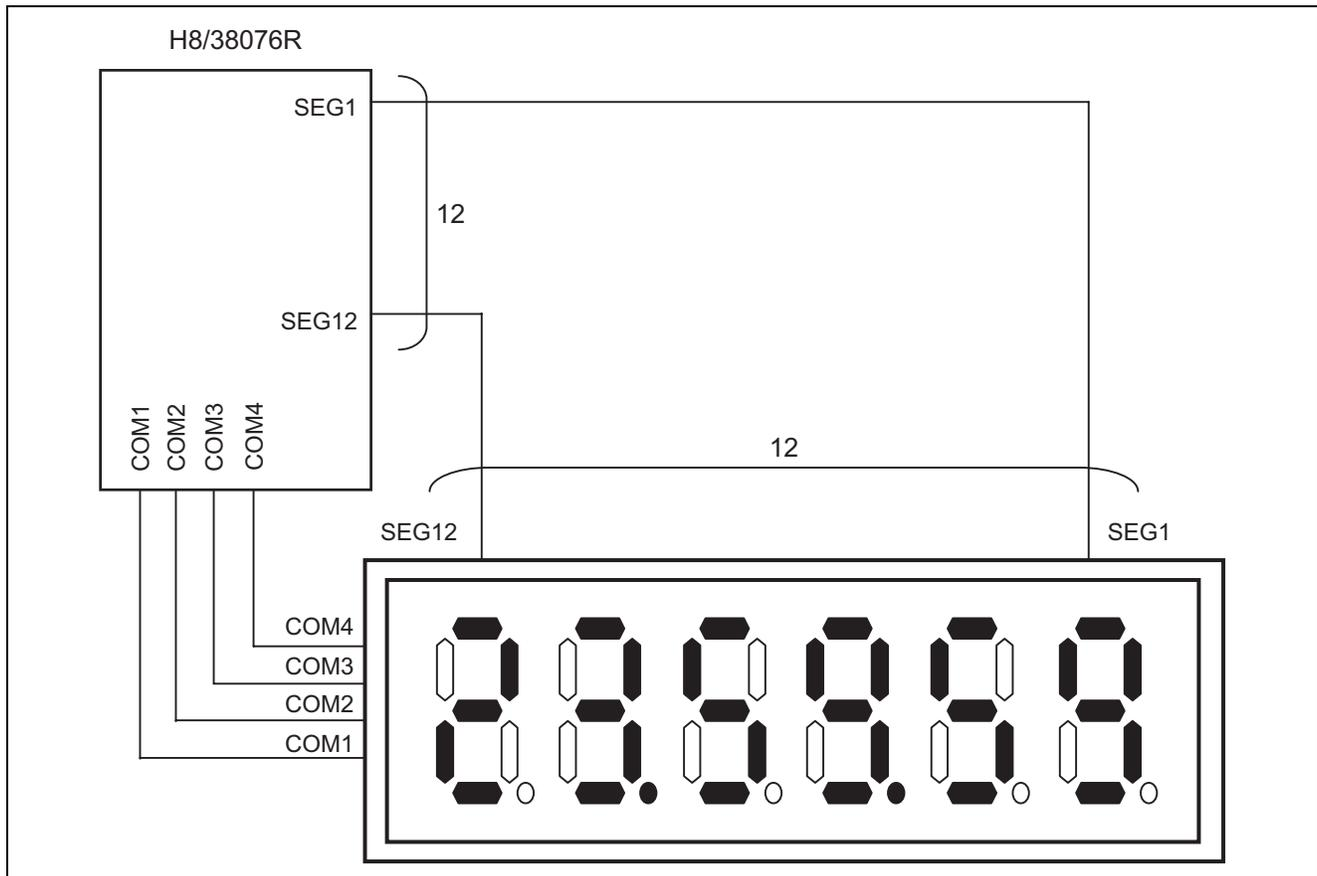

Figure 1 Example of Connection for LCD Panel
- Figure 1 shows an example of connecting an LCD panel.